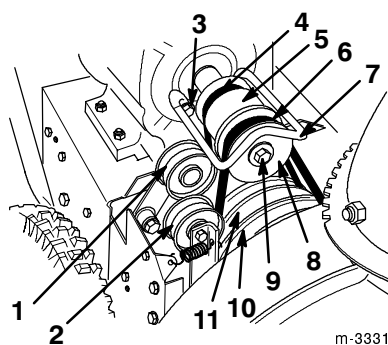

Figure 17
If the traction belt (Fig. 17) becomes worn, oil-soaked, or otherwise damaged, replace the belt. You can purchase a new belt from your Authorized Service Dealer.
5. Remove two screws, two washers, and two lock washers that secure the belt guide (Fig. 17).
6. Remove the engine crankshaft screw, lock washer, and washer (Fig. 17).
7. Separate and remove the engine pulley sheave (Fig. 17).
9. Remove the engine pulley (Fig. 17).
10. Remove the traction belt from the traction pulley and the engine crankshaft (Fig. 17).
11. Pull the traction idler pulley outward and install a new traction belt (Fig. 17).
13. Pull the idler pulley outward and loop the auger/impeller drive belt in front of the engine pulley, making sure that the belt is on the inside of the idler pulley (Fig. 17).
5. Remove the two screws, two washers, and two lock washers that secure the belt guide (Fig. 17).
8. Remove the auger/impeller drive belt (Fig. 17).